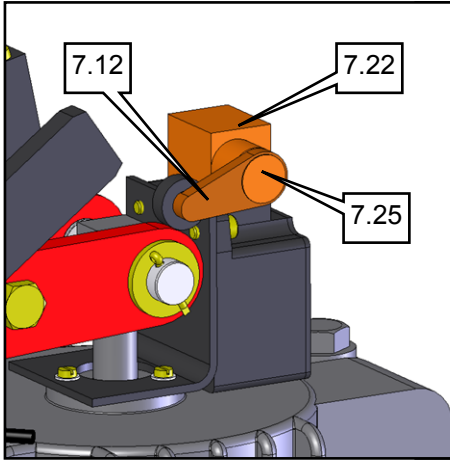

Fig. 12:
- Swivel both levers (1.4 / 1.5) complete with AWC unit (2) upwards (Fig. 12 left).
- Remove levers (1.4 / 1.5) from AWC unit (3)